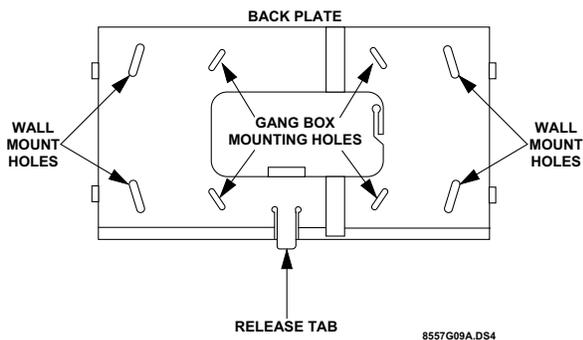

Figure 1. Wall and Gang Box Mounting Holes
2. Place the back plate on the wall and mark the four wall-mount holes (see Figure 1). Be sure to leave a one-inch clearance on all sides of the back plate.
2. Line up the gang box mounting holes with the gang box holes (see Figure 1).